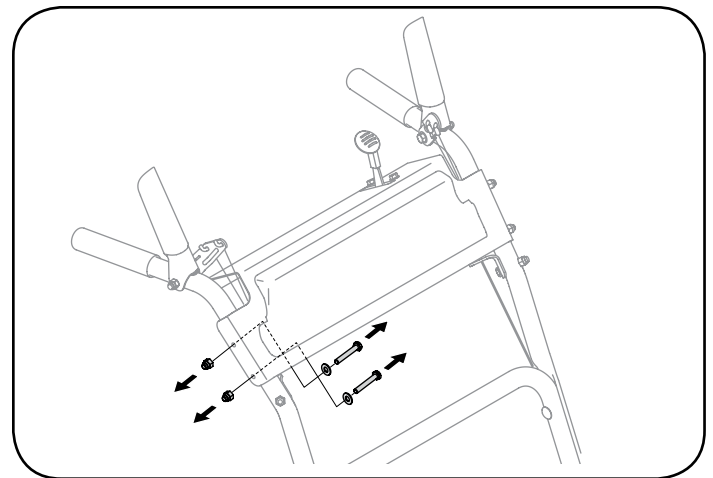

Figure 3
2. Remove the following from the right side of the upper handle, Figure 3. The hardware removed can be discarded.